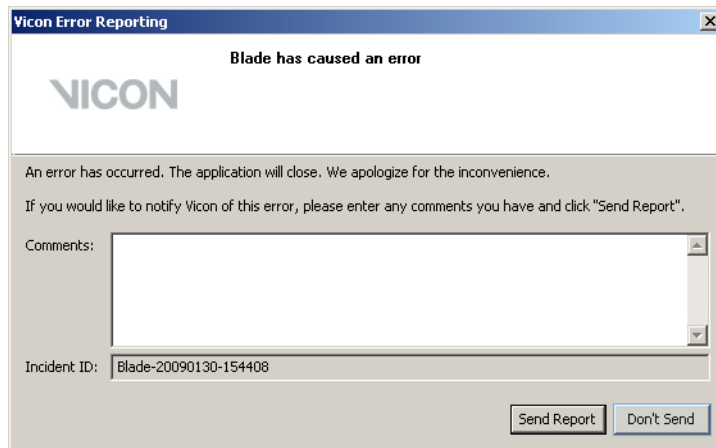

Figure 3: Vicon Error Reporting dialog box
- The **Vicon Error Reporting** dialog box, shown in Figure 3, is displayed.